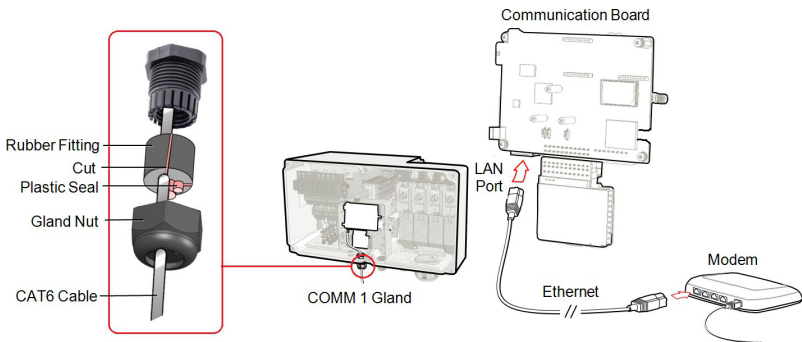

Figure 33: Inserting the Ethernet (CAT6) cable
CAT6 cables have eight wires (four twisted pairs), as shown in the pin layout of the Ethernet connector in Figure 33. Wire colors may differ from one cable to another. You can use either wiring standard, as long as both sides of the cable have the same pin-out and color-coded.
- Insert the eight wires into an RJ45 connector, as shown in *Figure 33*.